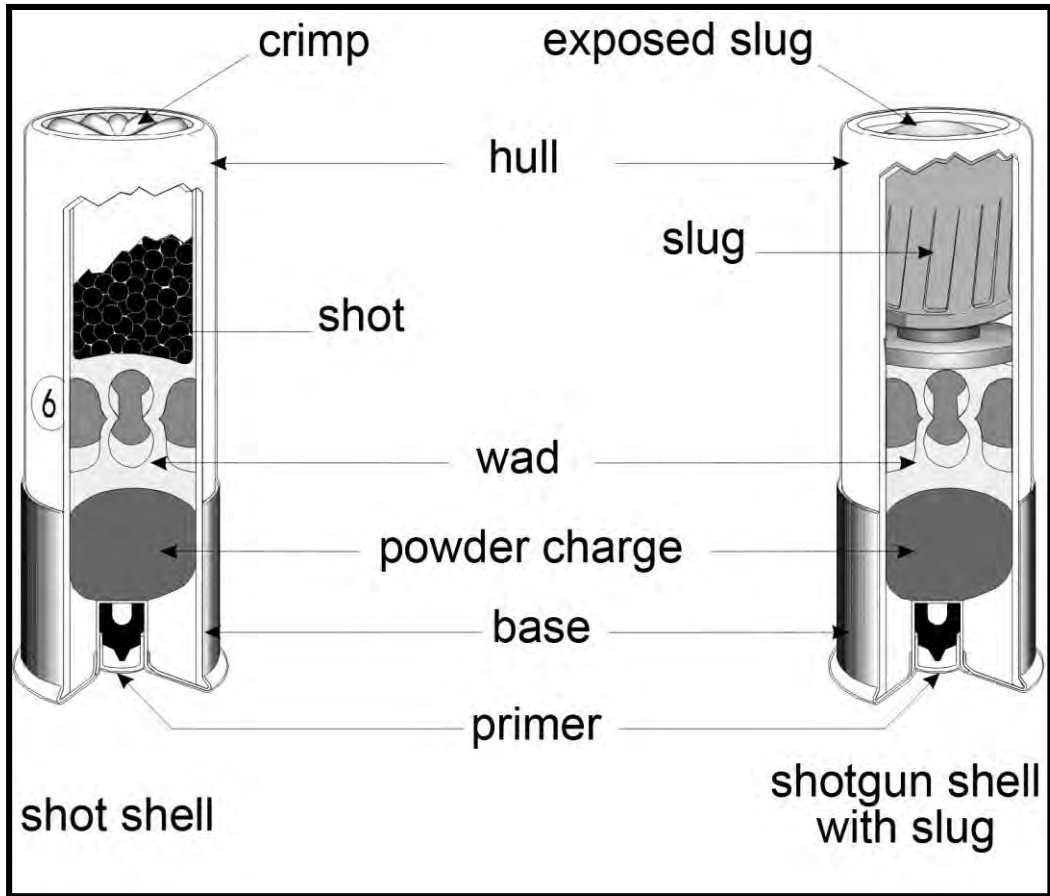

Figure 32. Shotgun Shells
- a. Shotgun shell components are similar to those of rifle cartridges. However, there are five components, not four (Figure 32). The five shotgun components are described below.